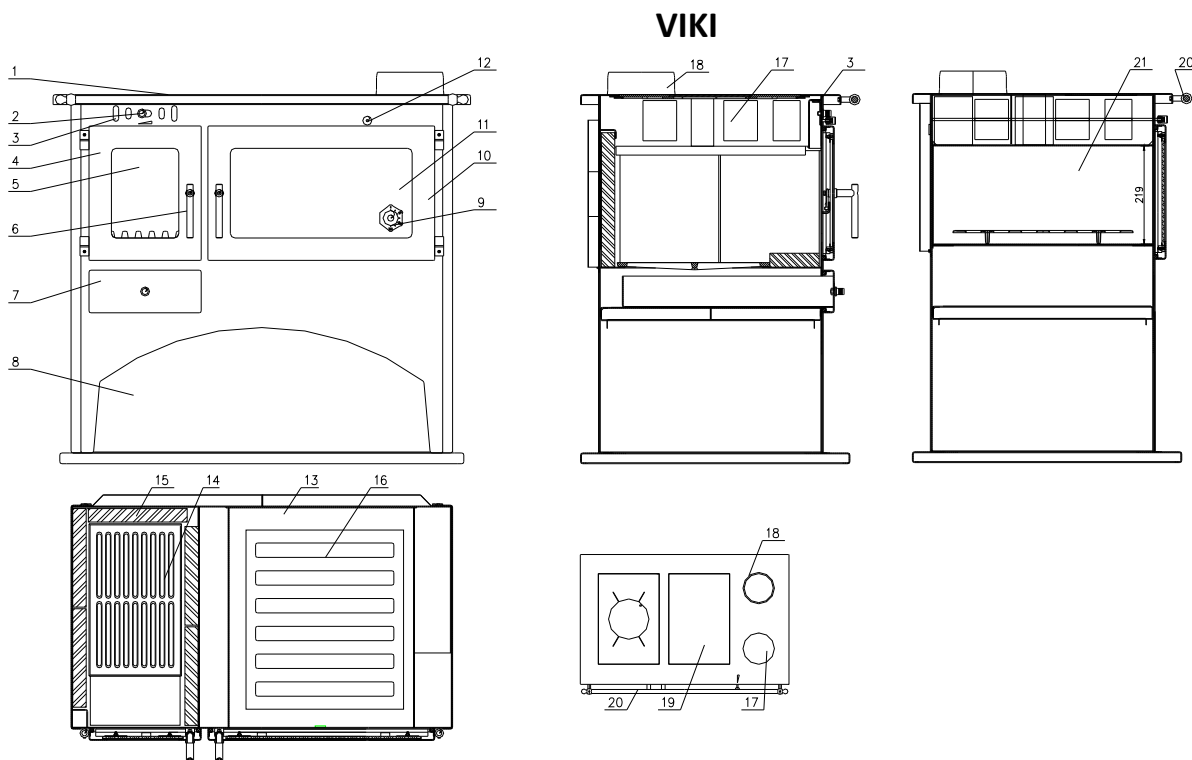
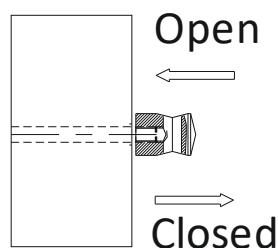

Figure 2
Figure 5
If you wish to heat up the oven, it is necessary to have good fire in the combustion chamber and the flap should be closed (fig. 5). On the oven door is installed temperature gauge (fig. 2, pos. 9), which helps to observe the right temperature.
If you wish to bake any dishes or pastry product it is recommended to use the supplied oven grate (fig. 2, pos.16).
Secondary air provides to the fire the required quantity of oxygen for combustion and assists for the better combustion of the fuel. The quantity of the secondary air is adjusted through the regulator (Figure 2, position 3), placed at the front part of the cooker. While the appliance is working, the secondary air regulator ensures control over the combustion process both qualitatively and quantitatively. The secondary air regulator should not be closed when the appliance is working. In many cases the secondary air regulator has been closed shortly after the ignition, despite our directions, to reduce the fuel consumption. This leads to limitation of the flow of oxygen and as a result to not efficient burning process and then the glass is covered with soot. In addition, there are harmful emissions which may cause higher amount of soot particles in the chimney.
Flap for ignition (figure 2, position 17).
To facilitate the ignition of a cold cooker, the cookers are equipped with an ignition valve (fig. 2 , pos. 17). It is open when the handle of the valve lever (pos. 12) is pressed tightly against the front. This ensures a direct connection between the combustion chamber and the chimney. Once the stove is well lit, the ignition valve must be closed by pulling the valve lever using the handle (pos. 12). The cooker is designed to be operated with the valve closed, thus ensuring optimum power. Ignition valve control marking (fig. 5):
- The regulators for primary and secondary air control and the flap must be opened (figure 5 and 8).